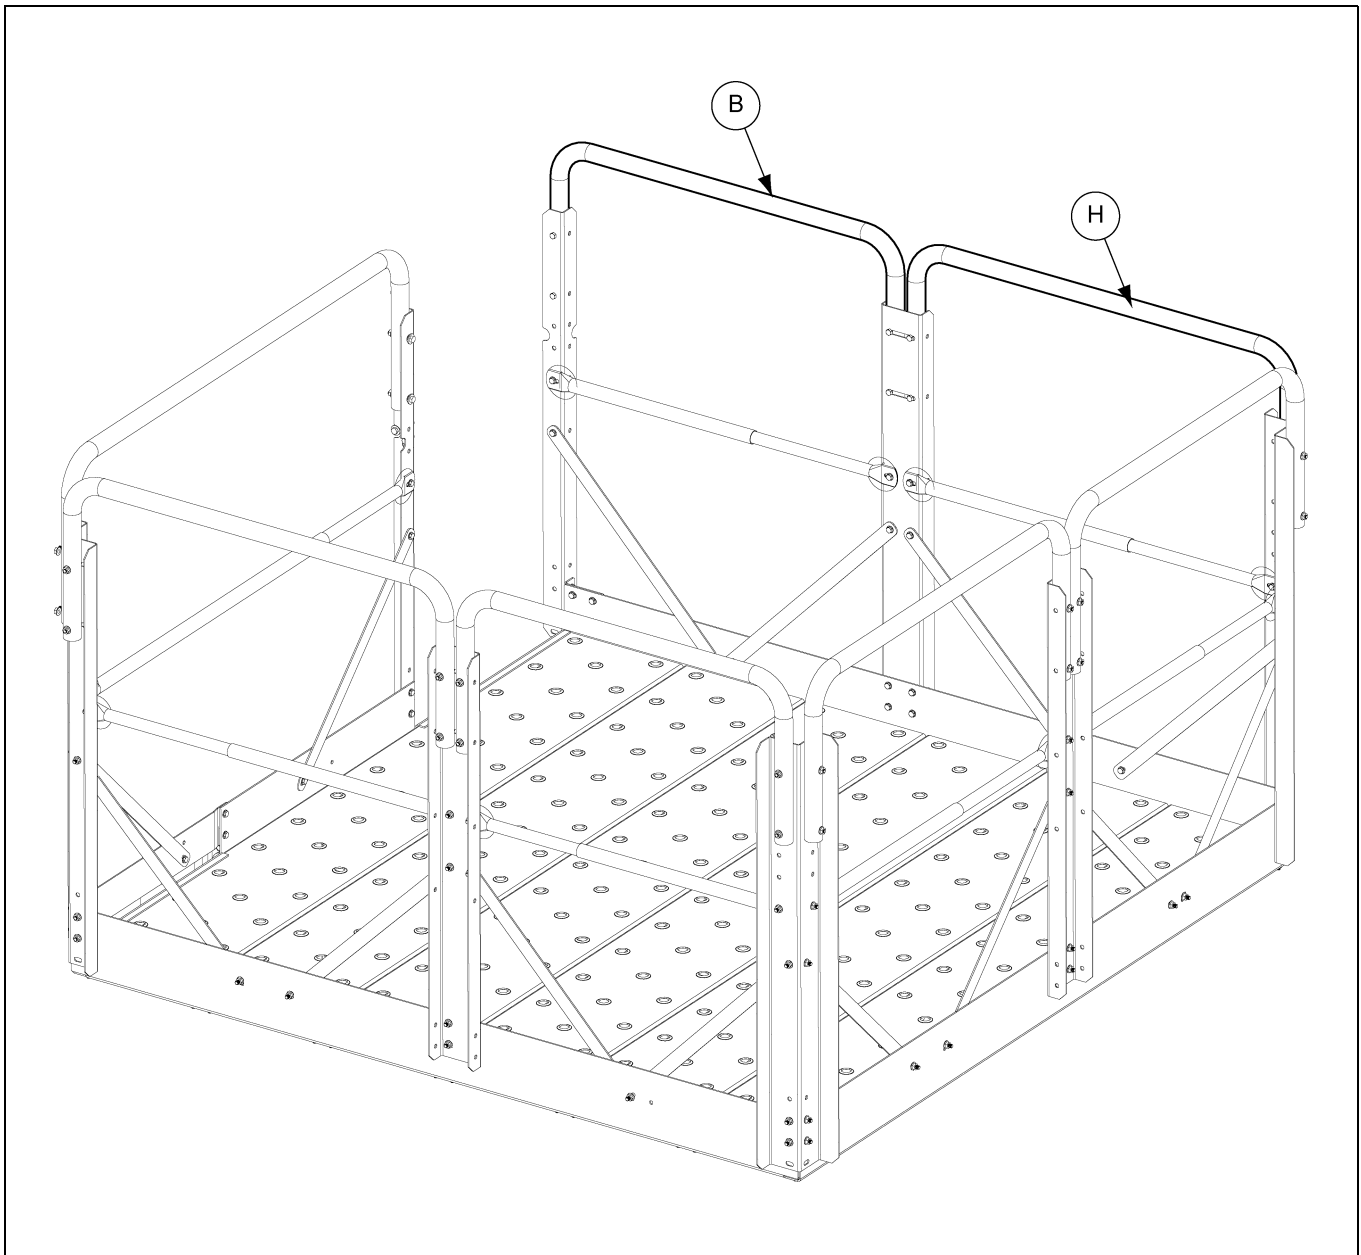

Figure 13N
Attach hatch outside handrail (HP1648HLH) (H) from "W" corner post to platform post and back side handrail (DSP3036H32) (B) from platform post to next safety gate side post (HP1648HP) using 5/16" bolt (S-7877) (J) and 5/16" flange nut (S-3611) (K). (See Figure 13N.)